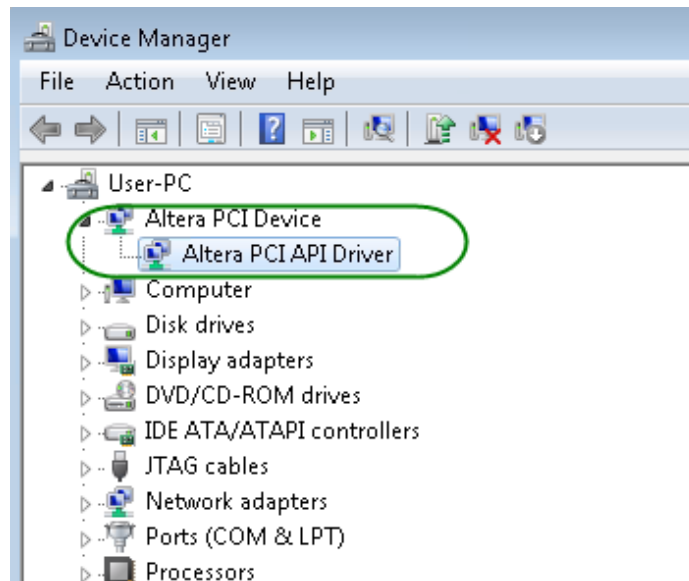

Figure 1-8 Altera PCI API Driver in Device Manager
10. Once the driver is successfully installed, users can see the **Altera PCI API Driver** under the device manager window, as shown in **Figure 1-8**.